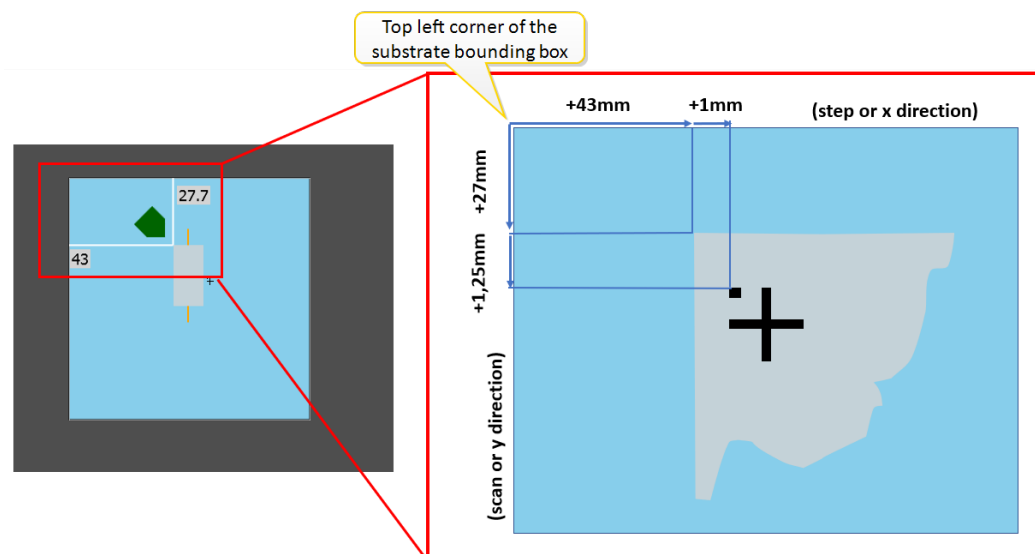

Figure 3-96 Project position (l) and marker position (r)
7. Calculate the expected marker Step (X) and Scan (Y) positions with reference to the top left of the substrate bounding box, see **Figure 3-96 on the facing page**.